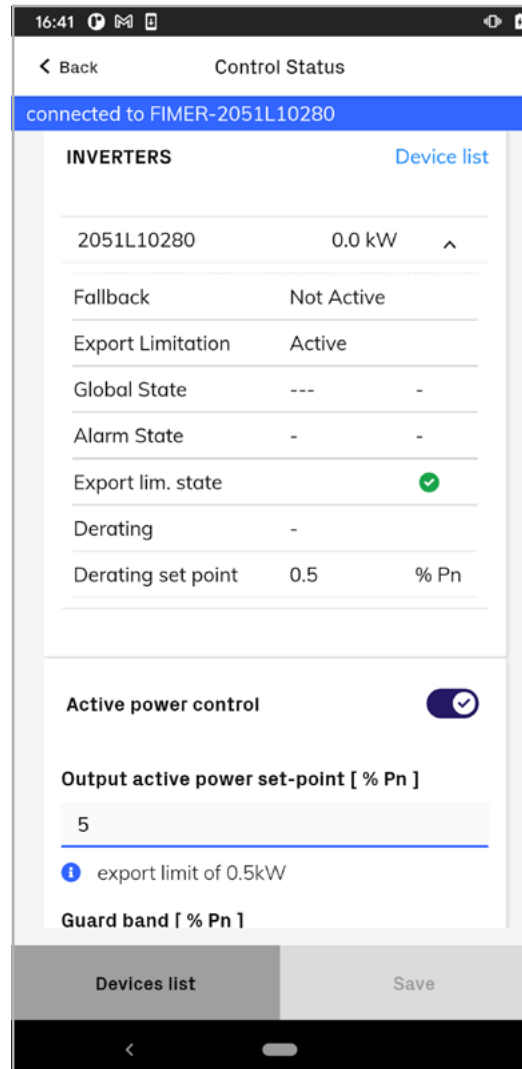

Figure 24 - Export monitoring: inverter status
- Figure 24 - Export monitoring: inverter status